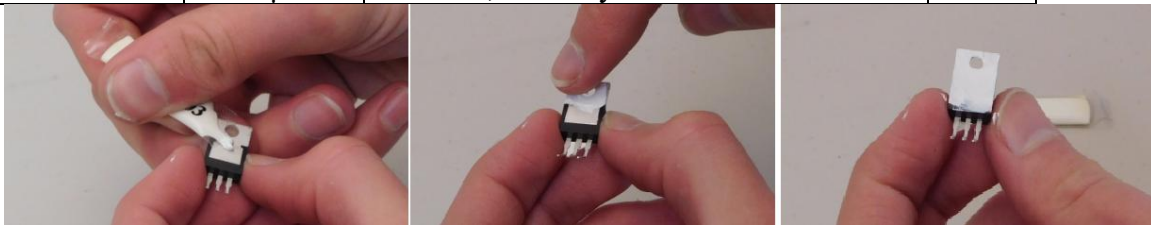

Figure 4-Applying thermal compound
1. Start with U\$1, the  $\mu$ A7815. Spread a thin film of heatsink compound on the back of the regulator, see Figure 4.